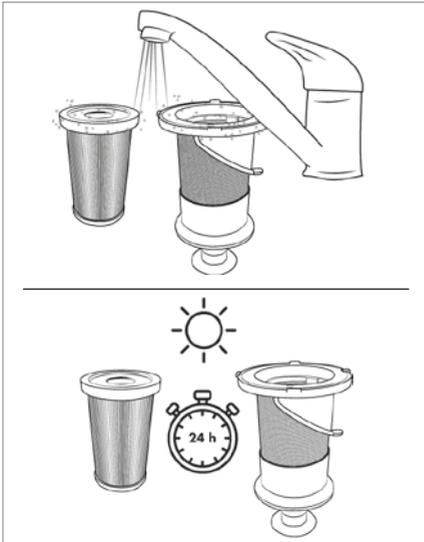

Fig. 22
- 5) Rinse the EPA filter **5** and the stainless steel filter **6** under cold or lukewarm water. Allow the EPA filter **5** and stainless steel filter **6** to air dry completely before putting them back into the dust container **7** (see Fig. 22).